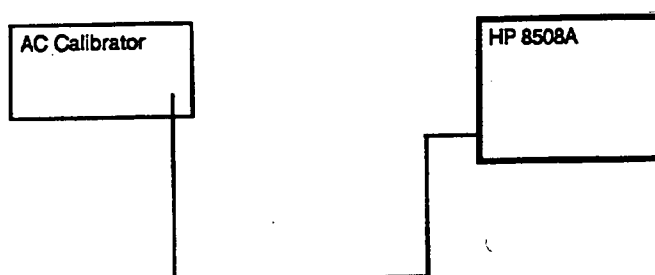

Figure 5-3. Reference Level Adjustment Equipment Setup
5. Configure the equipment as shown in the Figure 5-3.